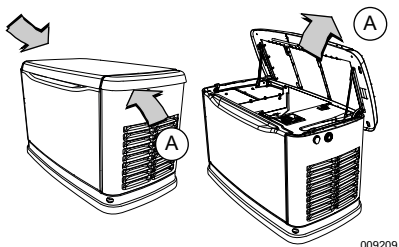

Figure 2-3. Opening the Lid
2. See Figure 2-3. Two locks (A) secure lid; one on each side. Press down on lid above side lock, and unlock latch to correctly open lid.